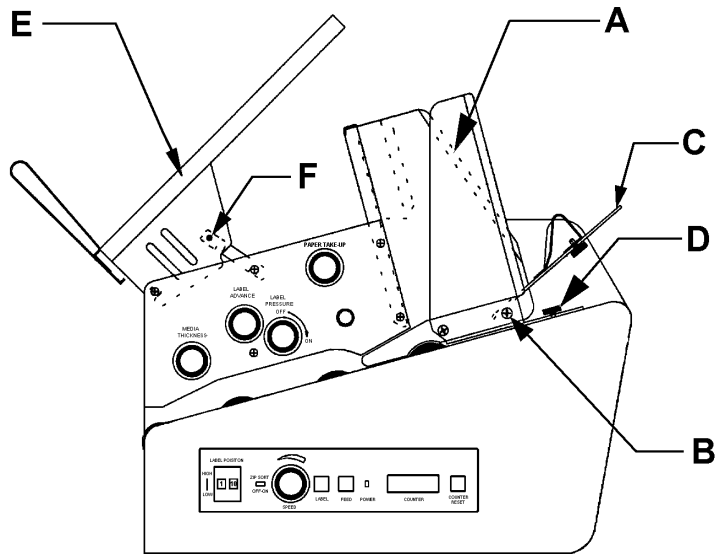

Figure 1
2. Mount Envelope Guide **[Figure 1-A]** to Side Guide Block using 2 screws **[Figure 1-B]**.
3. Mount Media Stack Rest **[Figure 1-C]** to Tabber using thumbscrew **[Figure 1-D]**.
4. Mount Label Stack Tray **[Figure 1-E]** on cross-rods **[Figure 1-F]**. Assembly snaps into place.